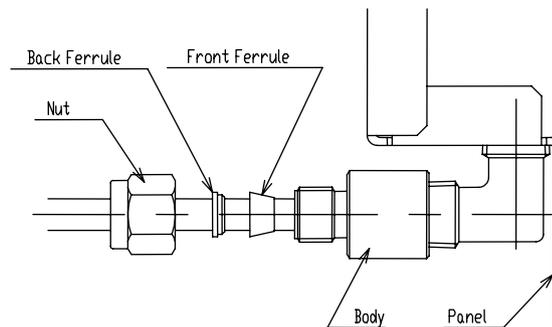

Fig. 4.5 Piping procedure
- d) Insert the nut and ferrules into the tube until the end of the tube comes to the main body of the joint, and screw the nut by hand until it is locked. (Fig. 4.5)